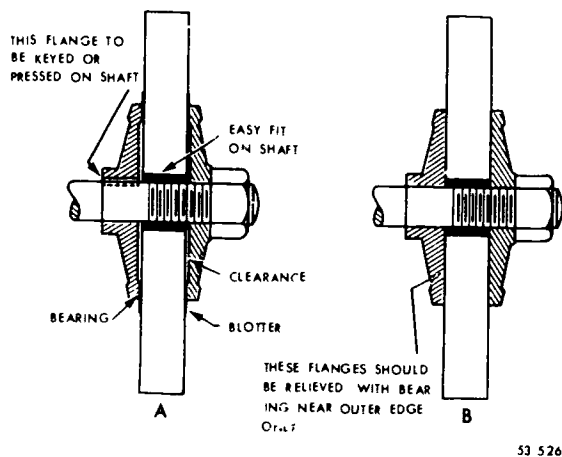

Figure 3-7 Flange mounting
**Mounting.** You mount a grinding wheel on the wheel spindle by means of wheel flanges or a collet. Power is transmitted through the flange or collect to the wheel. Figure 3-7 shows a flange mounting and figure 3-8 shows a collet mounting. Tighten the wheel between the flanges, or with the collet, enough to prevent wheel slippage and to transmit the driving torque. Do not tighten enough to crush the wheel. The safety guard should cover from one-half to three-quarters of the wheel diameter. The wheel guard should not expose more of the upper portion of the wheel than is required.
In flange mounting, you mount the wheel directly on the wheel spindle. There is a flange on each side of the wheel. These flanges must be equal in diameter and the center portion must be relieved, as illustrated in figure 3-7. The outer portion of the flanges provide the bearing surface. The diameter of a flange should be about one-third of the diameter of the wheel. Some